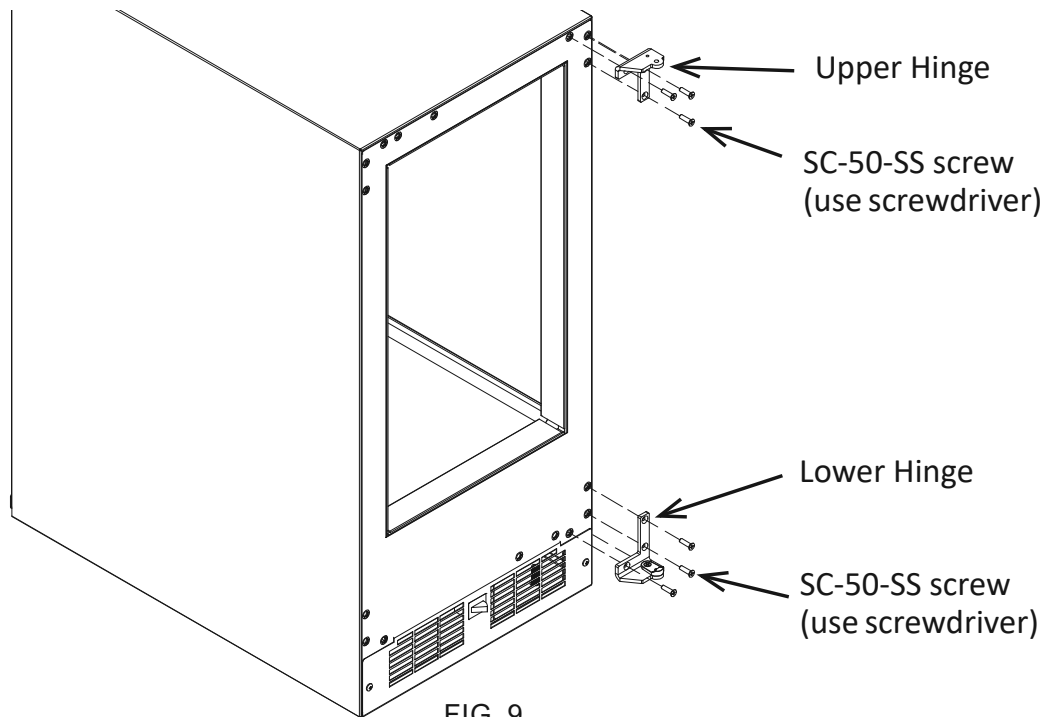

FIG. 9
Step 7. Remove the SC-50-SS screws and the hinges from the cabinet. See the illustration below. See figure 9